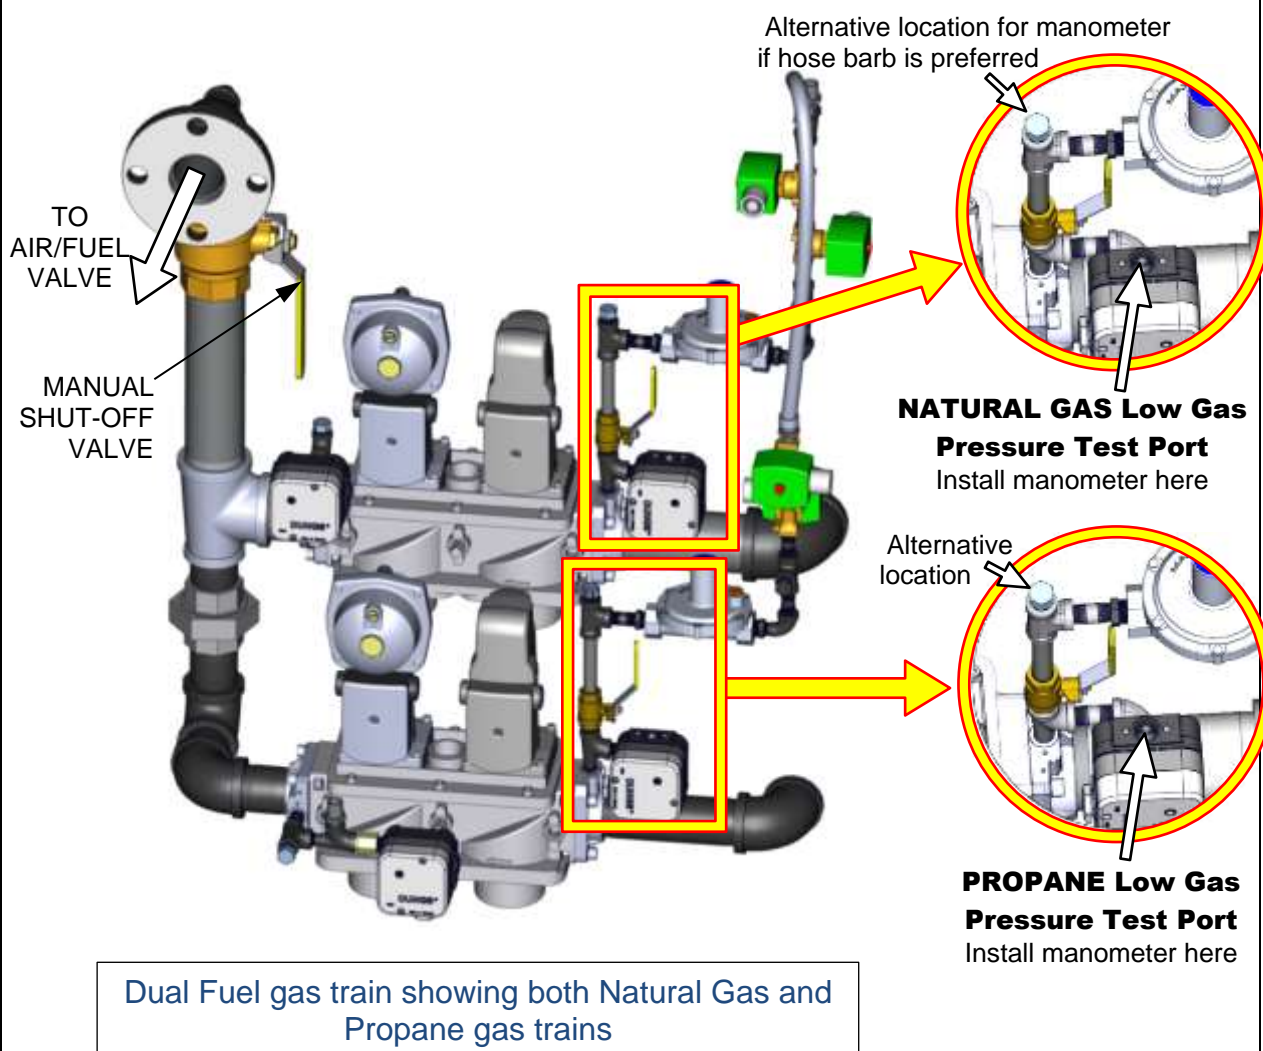

Figure 5-1: Low Gas Pressure Switch Locations & Test Ports
The steps and pressure setting required to check the Low Gas Pressure switch are described below. This switch is in the normally open (N.O.) position. Refer to Figure 5-1 for the location of the switch and where to connect the water column manometer/gauge when performing the test.
3. Locate the port on the top of the **Low Gas Pressure switch** (see Figure 5-1) and loosen the screw inside a few turns to open it. Do not remove this screw completely. Alternatively, you can remove the 1/4 inch plug shown in Figure 5-1 and install a hose barb fitting in that location.
15. For Dual Fuel units, repeat the previous procedure on the PROPANE gas train, starting with the PROPANE Low Gas Pressure Switch, shown in the bottom-half of Figure 5-1.